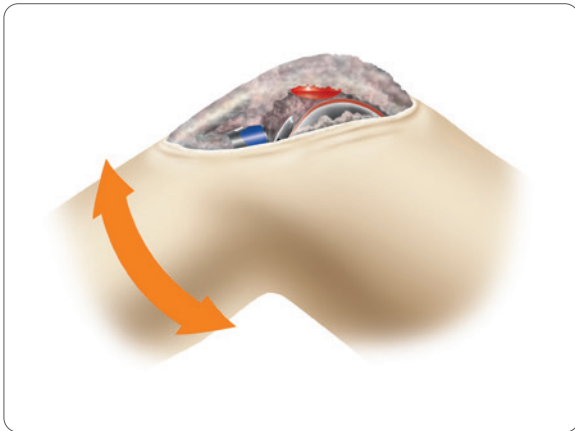

Figure 84
2. Perform a trial range of motion to assess patellar tracking. Medial/lateral placement of the femoral trial can be adjusted to optimize patellar tracking (**Figure 84**).